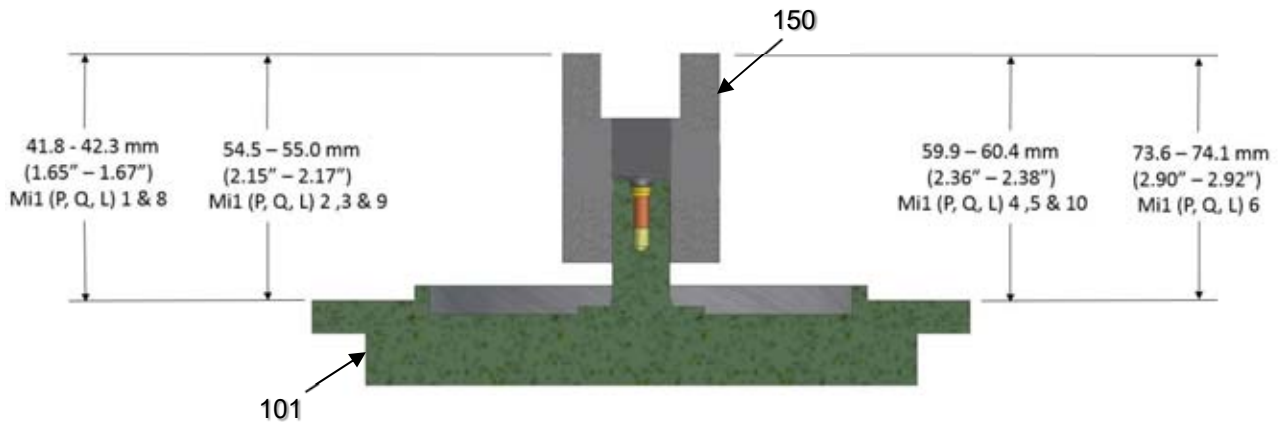

FIGURE 18 – MOTOR COUPLING PLACEMENT
- a. Install the lower retaining ring (44), if removed, in the housing (36).
- b. Mount the housing (36) in an arbor press, large end up.
- c. Press the bearing (37) on its outer race to seat against retaining ring (44).
- d. Install the upper retaining ring (44).
- f. Press the quill shaft (35) into the bearing until the shoulder of the shaft registers against the inner race of the bearing.
- g. Install the upper retaining ring (56) in the shaft groove.
- h. Turn the housing large end down, and press the lower oil seal (49) until it is flush with the end of the housing.
- a. Position the motor coupling hub (150) as shown in Figure 18.